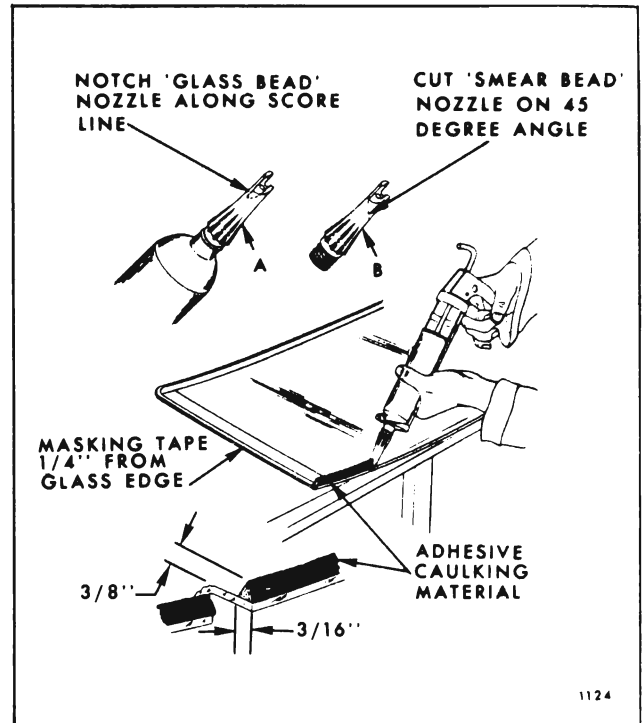

Fig. 4-9—Adhesive Caulking Installation - Extended Method
8. Cut off tip of one nozzle along score line (Fig. 4-9). This "glass bead" nozzle will be used to apply bead of adhesive caulking material to glass. Cut tip off other nozzle at 45° angle 1" below end of nozzle (Fig. 4-9). This nozzle will be used to apply "smear bead" of adhesive caulking material to pinchweld flange.
11. Positioning the gun and nozzle as shown in Figure 4-9 carefully apply a smooth continuous bead of caulking material 3/8" high by 3/16" wide at base completely around inside edge of glass. When material in first tube is dispensed, quickly insert second tube and continue application of bead. After application, check bead and fill all voids and air bubbles.